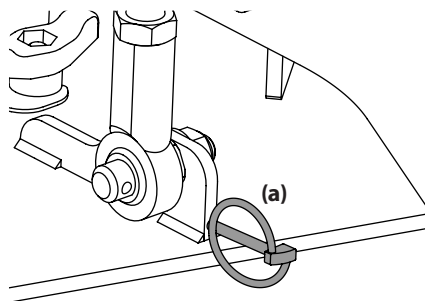

Figure 18
- Remove the four lynch pins (a) that secure the deck to the deck lift assembly. See Figure 18.